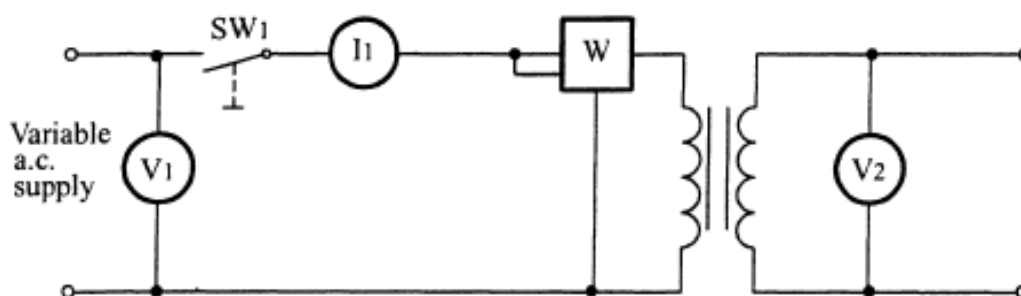

Figure 1
1. Connect the equipment as shown in figure 1 below.